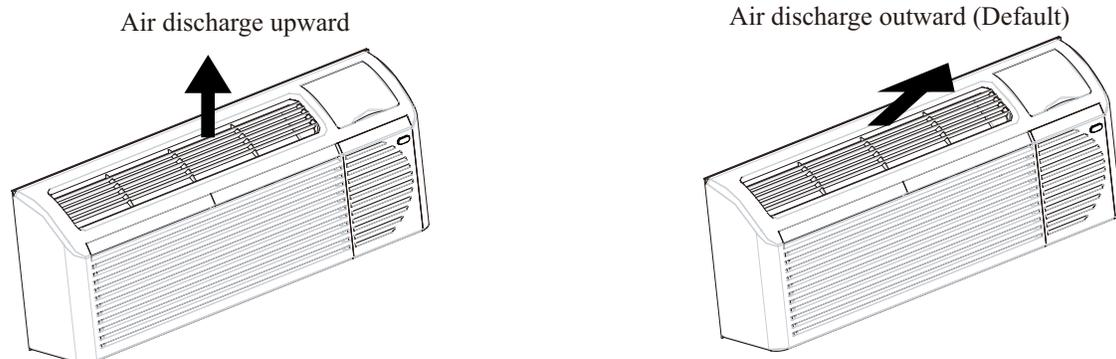

Fig. 19 Adjusting Louvers
3. Turn louver insert and rotate 180°. See Fig. 19.